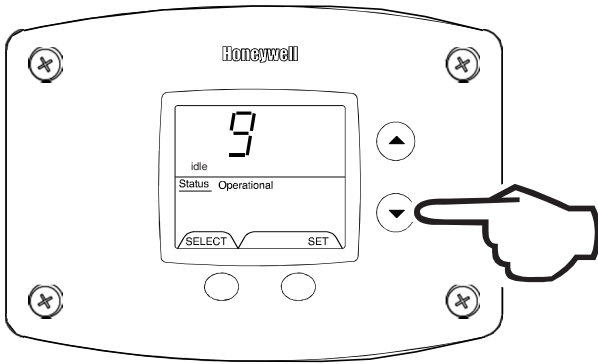

Fig. 67
4. Press the 'Temperature Down' button to change to the previous code index, code #9 (Fig. 67).